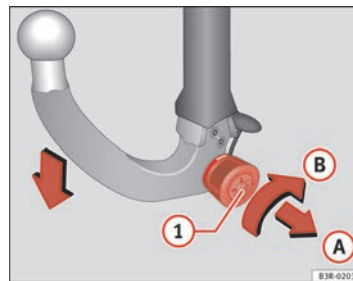

Fig. 170 Removable towing bracket: Removing the ball joint
- Insert the key in the lock **1** ⇒ fig. 170 on the knob.